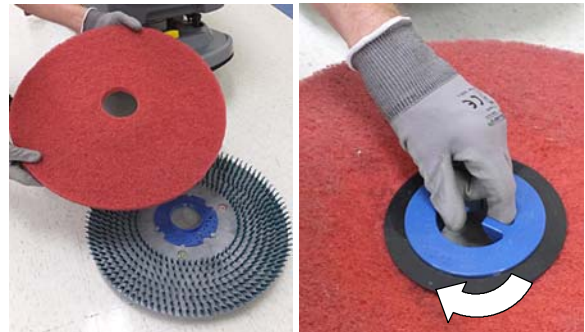

FIG. 9
2. Attach the pad to the pad driver before installing the driver (Figure 9). Secure pad with centerlock.